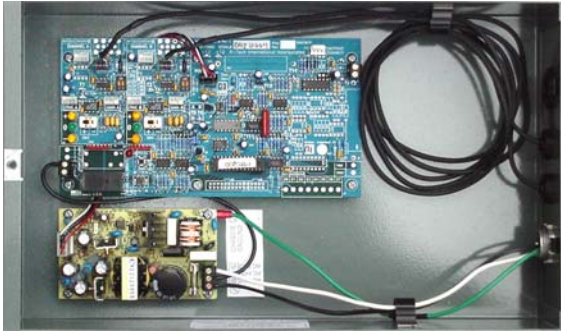

Fig 3.5 AC Wiring and Sensor Wiring
5. Pull any excess cable into the box, and roll it up into a 3" - 4" diameter coil and insert it into the clamp inside, tie-wrap or wire tie it as shown in Figure 3.5 leaving enough (about 1 ft.) on the free end to connect to the circuit board.